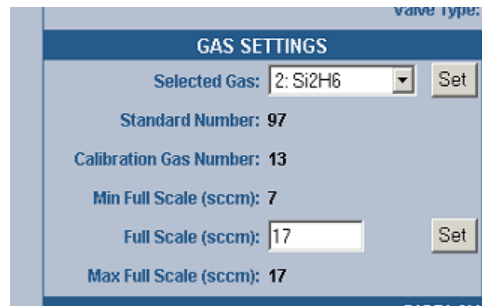

Figure 27: Changing the Full Scale Flow Range
- Manually - Depress and hold the zero ("Select") button on the top of the device enclosure for three (3) seconds.
- Via the Ethernet UI – Connect to the device using the Ethernet UI and enter the Setup Mode. Go to the Configure Tab and zero using the "Zero Flow" button on the screen. See Figure 27.
- Electronically (15 Pin D analog only) – Pull Pin 9 to ground for three (3) seconds.
- Manually - Depress and hold the zero (“Select”) button on the top of the device enclosure for three (3) seconds.
- Via the Ethernet UI – Connect to the device using the Ethernet UI and enter the Setup Mode. Go to the Configure Tab and zero using the “Zero Flow” button on the screen. See Figure 27.